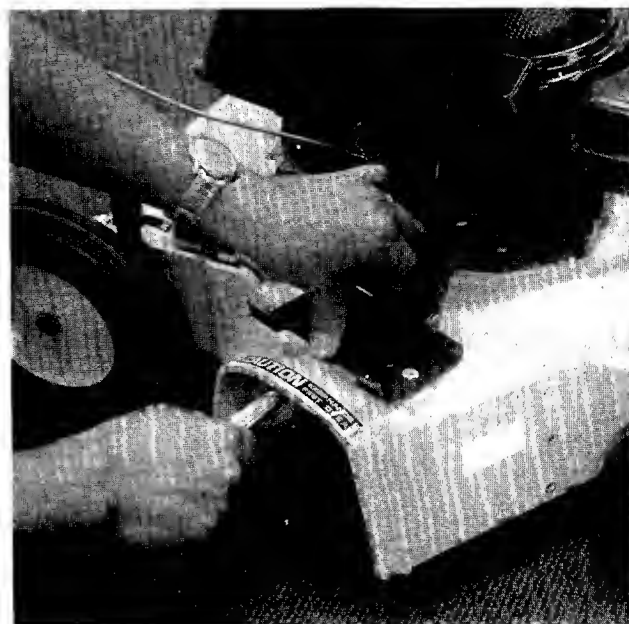

FIGURE 3. SECURING LOCK NUTS
6. Tighten two hex lock nuts securely. See figure 3.